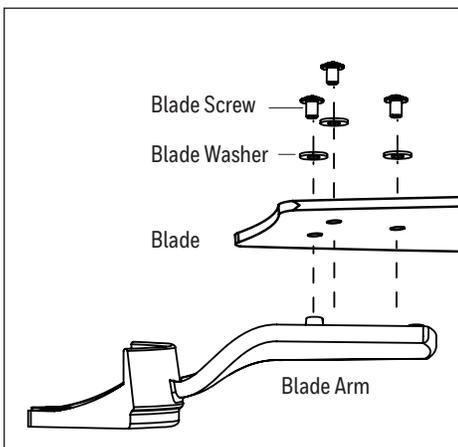

Figure 5.4
- Partially insert the blade screws along with blade washer through blade and into the blade arm. Tighten each blade screw starting with the one in the middle. Repeat this step for the remaining blades and blade arms (Figure 5.4).